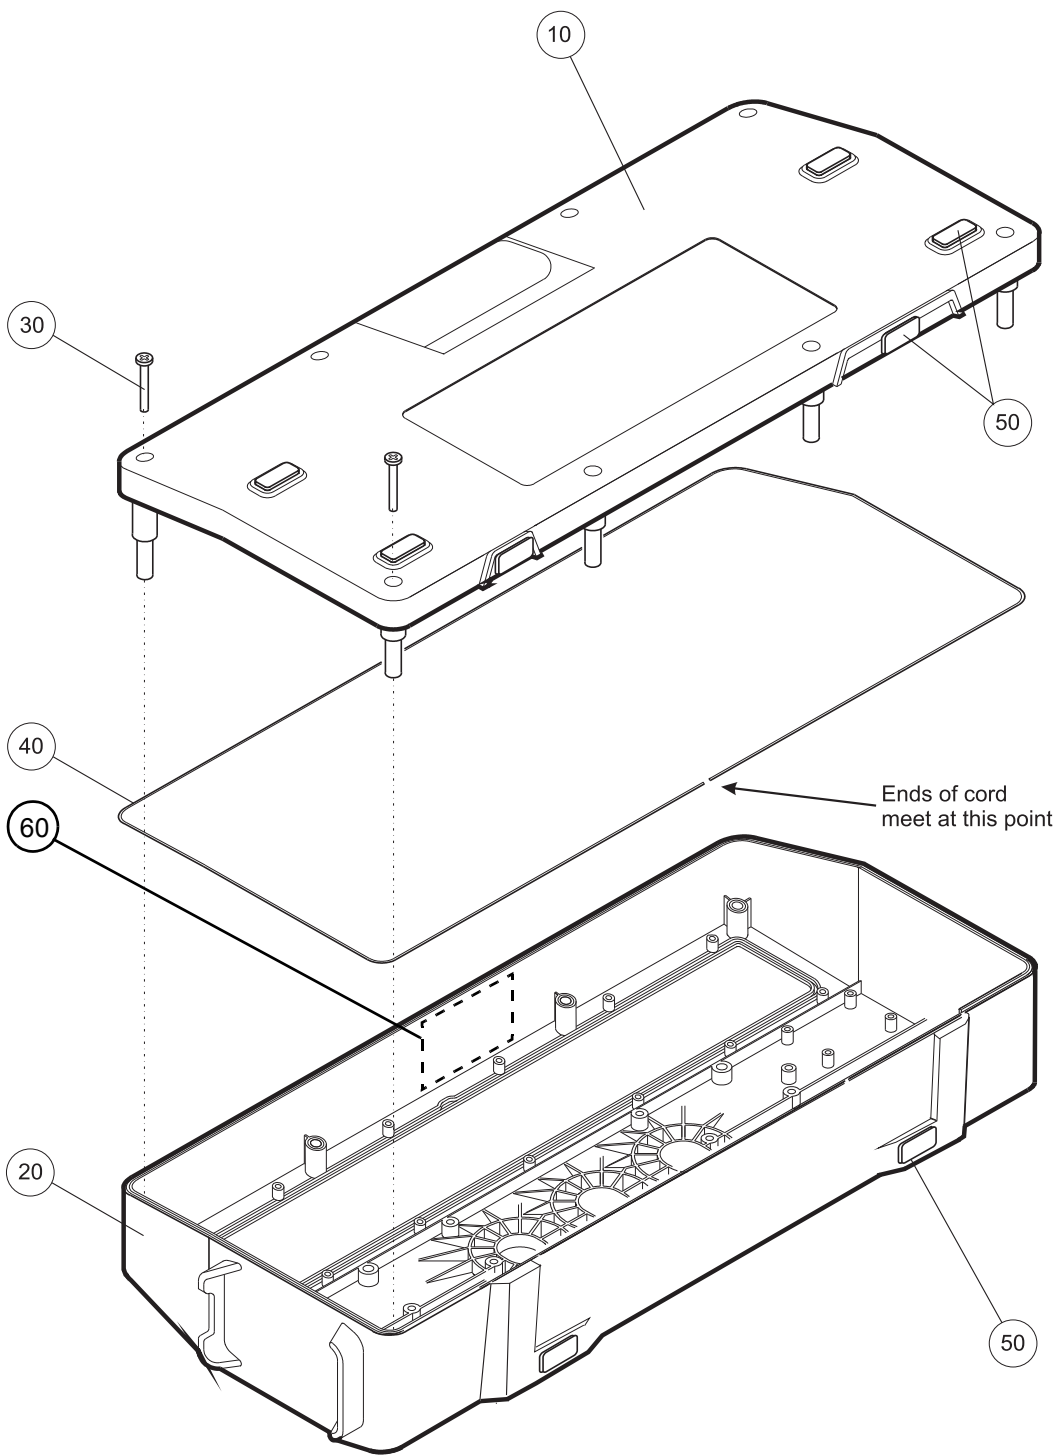

Figure 8 - Rear Case Assembly
- 4.2 Place the pump unit on a flat surface with the front case (Fig 8, Item 20) face down.
- 4.3 Unscrew the 8 pan head screws (Fig 8, Item 30) and lift the rear case (Fig 8, Item 10) away from the front case (Fig 8, Item 20). Keep the screws (Fig 8, Item 30) in a safe place.
- 4.4 Carefully remove the neoprene sponge cord (Fig 8, Item 40) and inspect for damage.